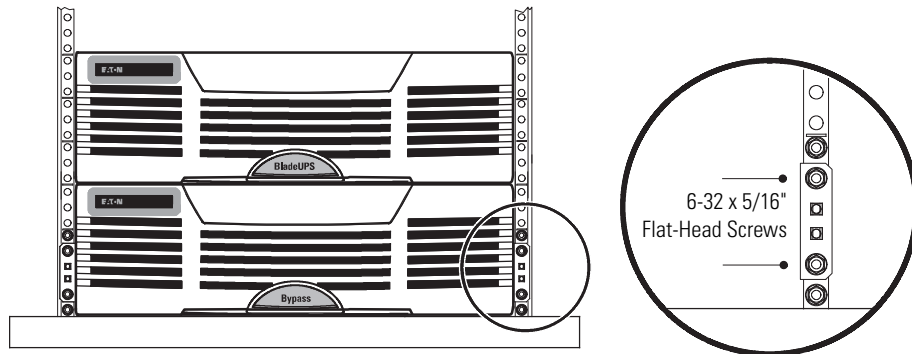

Figure 10. Securing the MBM Mounting Brackets
11. Secure the front of the MBM to the rack using two 10-32 x 1/2" hex-head screws in the top and bottom holes of each mounting bracket, as shown in Figure 10.